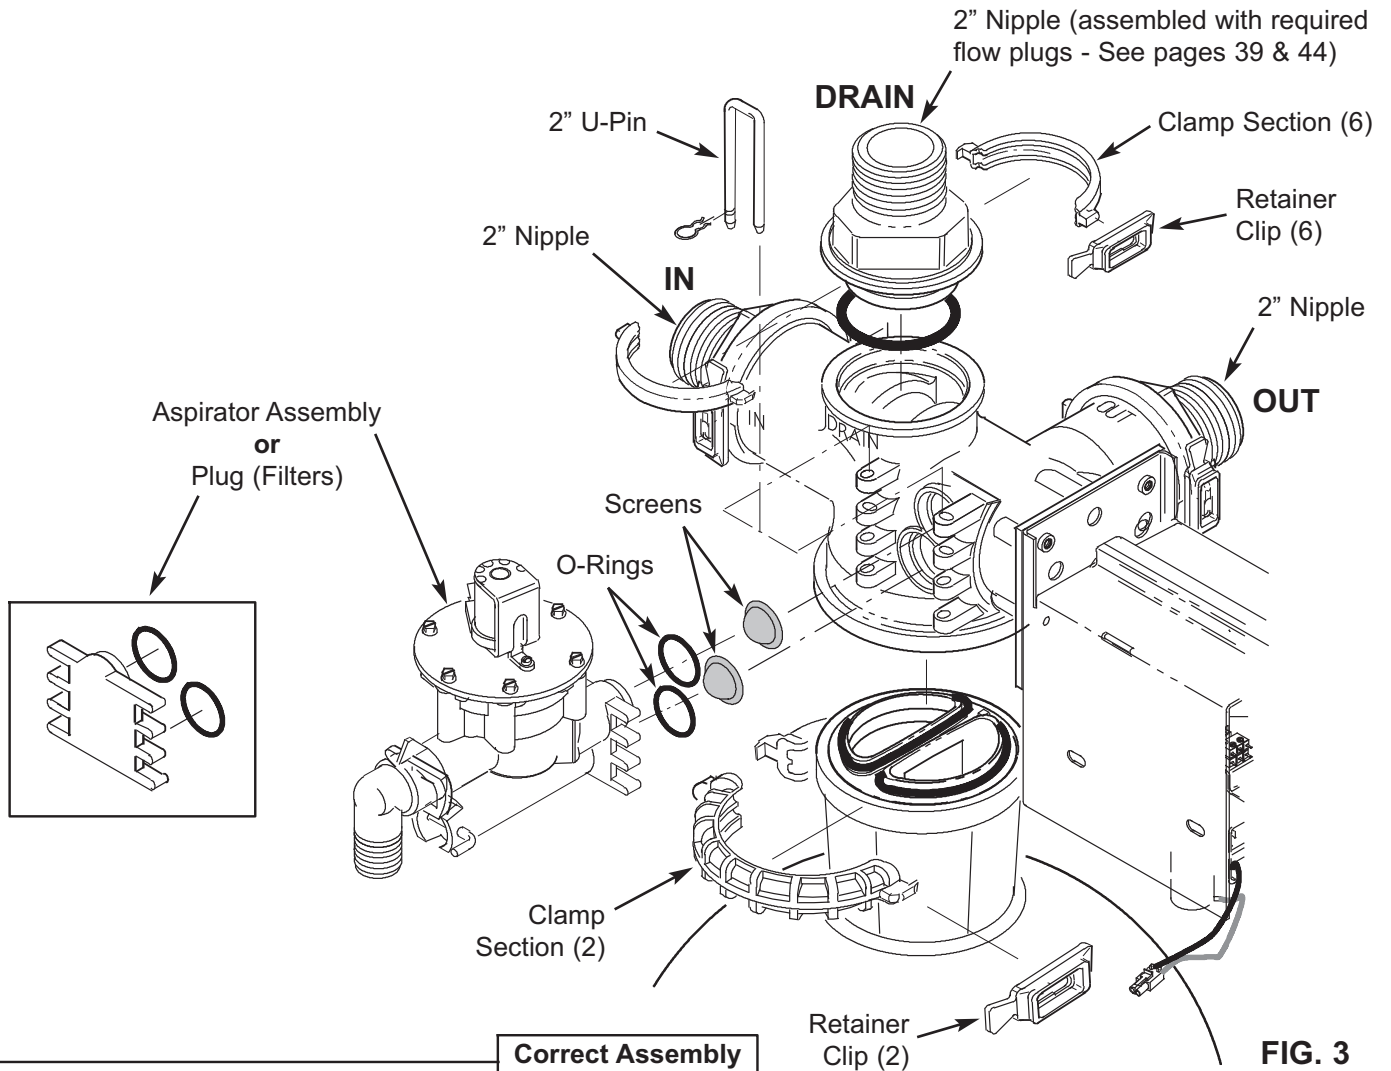

FIG. 3
14. Using 3-1/4" O.D. o-rings, clamps and retainers, install 2" nipples in the inlet and outlet valve ports (Figure 3). **Be sure the clamps and retainers are secured in place.**
15. Using 3-1/4" O.D. o-ring, clamps and retainers, install the factory assembled (with flow controls) drain nipple in the valve outlet port (Figure 3). **Be sure the clamps and retainers are secured in place.**